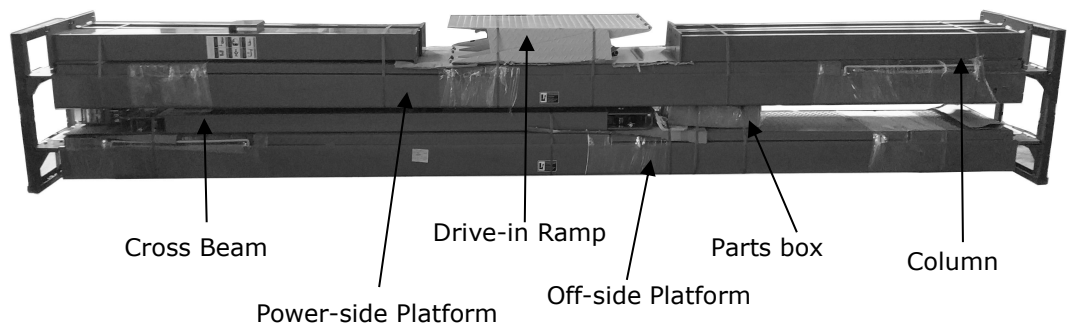

Fig.8
3. Open the outer packing, check all the parts according to the parts list (See Fig. 8).